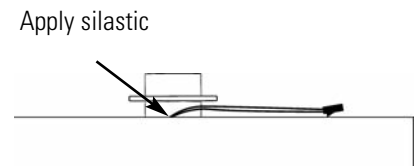

Figure 4. Seal VRP
6. Carefully insert the VRP assembly into the tube. Orient the VRP assembly with the blue wires extending to the right as shown in Figure 4.